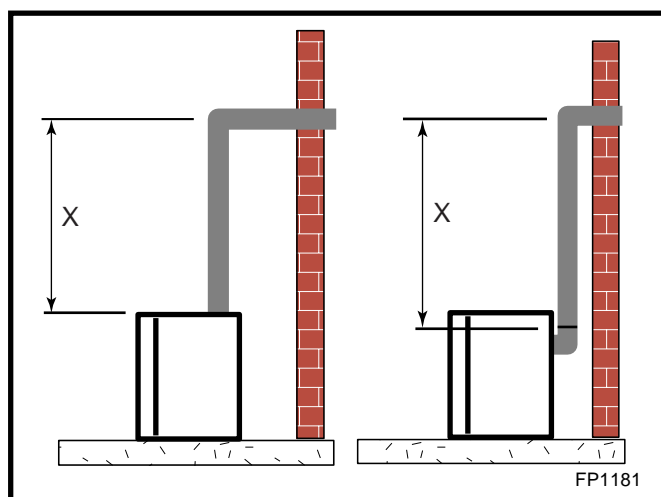

Fig. 31 Vertical height requirements.
Place fireplace into position. Measure the vertical height (X) required from the base of the flue collars to the center of the wall opening. (Fig. 31)